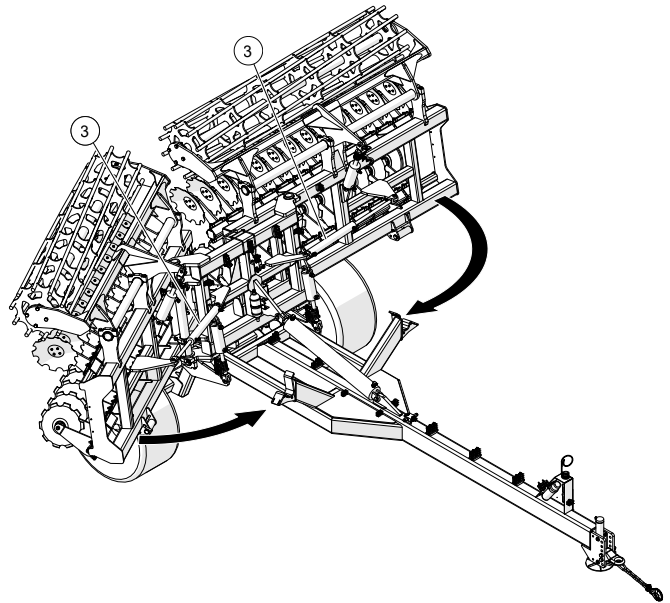

Figure 14. Folding Wings
4. Retract the wing cylinders (**#3**) to fold wings, When wing nears wing rest adjust transport cylinder (**#4**) so wing roller is just above wing rest, then completely retract wing cylinders (**#3**). When both wings are over wing rest retract transport cylinders (**#4**) until wings sit in wing rest. See **Figure 14**.